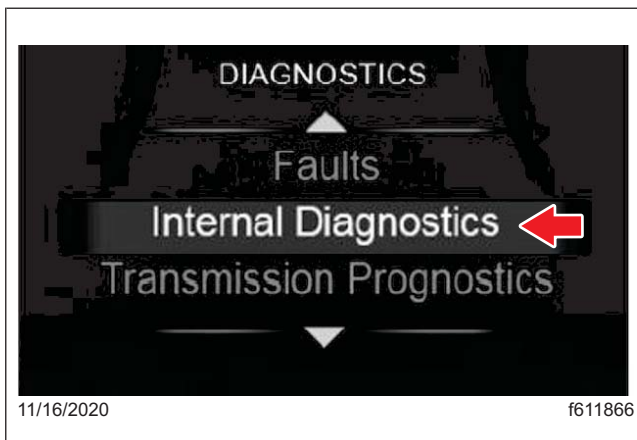

Fig. 16, Selecting Internal Diagnostics
7. Verify that all of the options are correct. From the main menu, scroll down to Diagnostics and press OK, then scroll down and highlight Internal Diagnostics and press OK again. See Fig. 16.